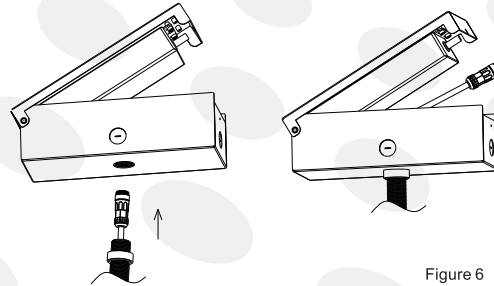

Figure 6
6. Assemble the 3/4 pipe nut to the aluminum pipe (fix the height and direction of driver box), across the DC connector through driver box, then screw the driver box onto the aluminum pipe. (Figure 6)